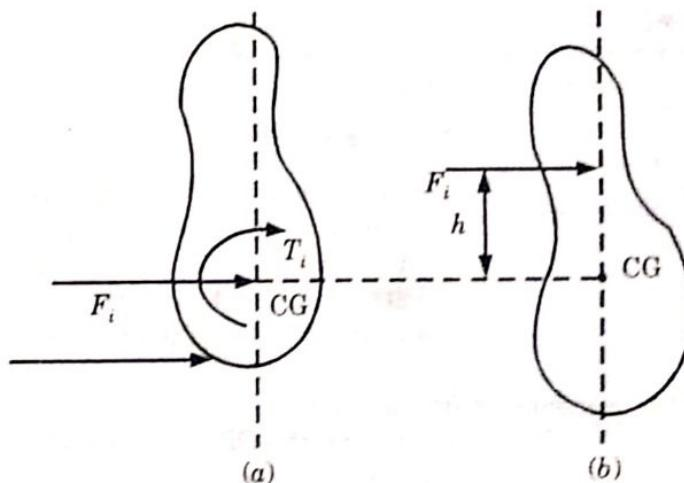

Fig. 3.6.1. Equivalent offset inertia force.
3. From the Fig. 3.6.1(b), it is clear that F_i acting at a distance h from CG of the body produces same effect as the effect is produced by F_i and T_i in Fig. 3.6.1(a).